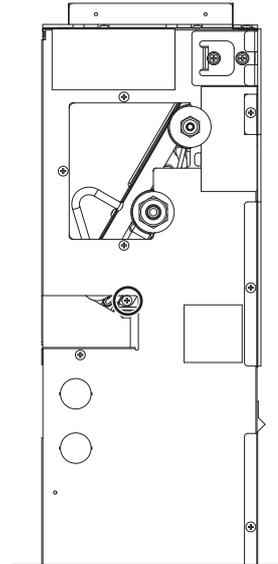

Fig. 18
- (1) Remove the fixing screws on the heat exchanger (R) to remove it (Fig.18, 19).